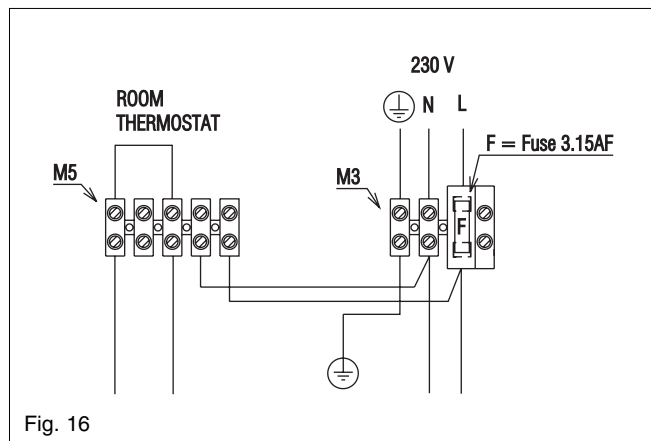

Fig. 16
4.7.3 CONNECTING THE MAINS (230V) INPUT (see fig. 16).